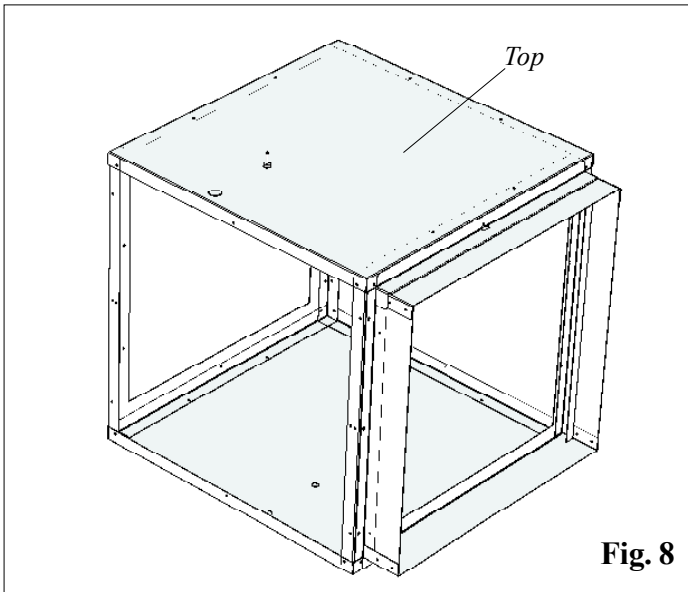

Fig. 8
5. Place the top on the filter box as shown in figure 8. At this time all Tek screws can be inserted around the filter box.